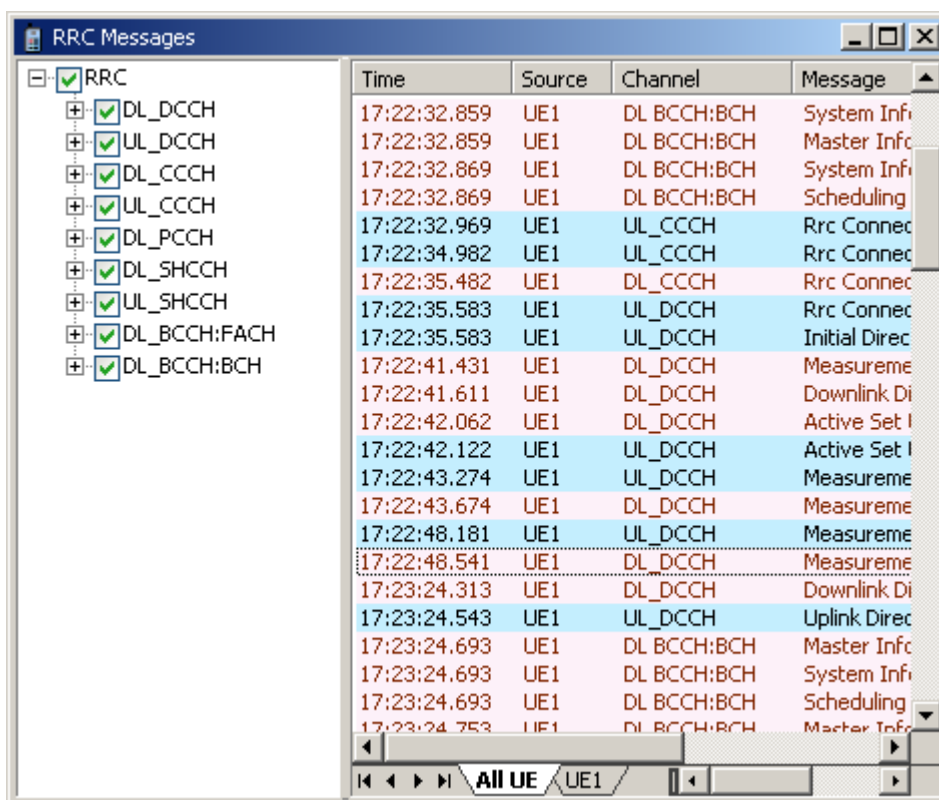

Figure 5-56 RRC Messages window
- The messages selected on the left navigation tree are displayed, as shown in Figure 5-56.